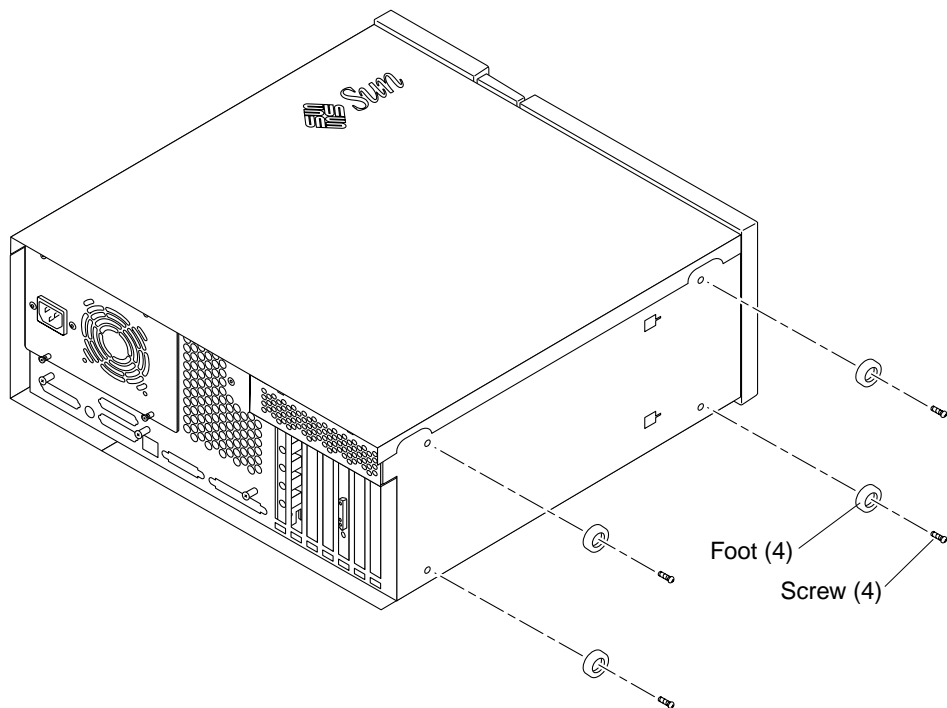

FIGURE 8-7 Removing and Replacing the Chassis Foot
3. **Using a number 2 Phillips-head screwdriver, loosen the screw securing the foot to the chassis (FIGURE 8-7).**
1. **Position the foot** (FIGURE 8-7).
6. Remove the PCI fan assembly (FIGURE 8-7):